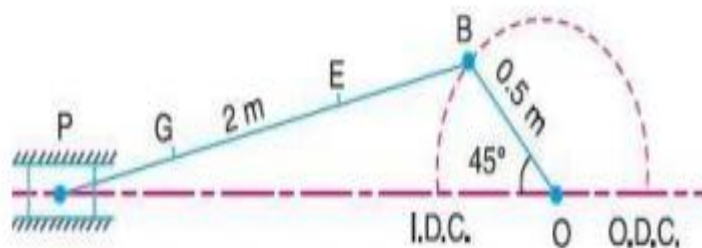

Fig.3, Q.2 (c) OR
5. Position and linear velocity of any point G on the connecting rod which has the least velocity relative to crank shaft. Refer Fig.3. **07**